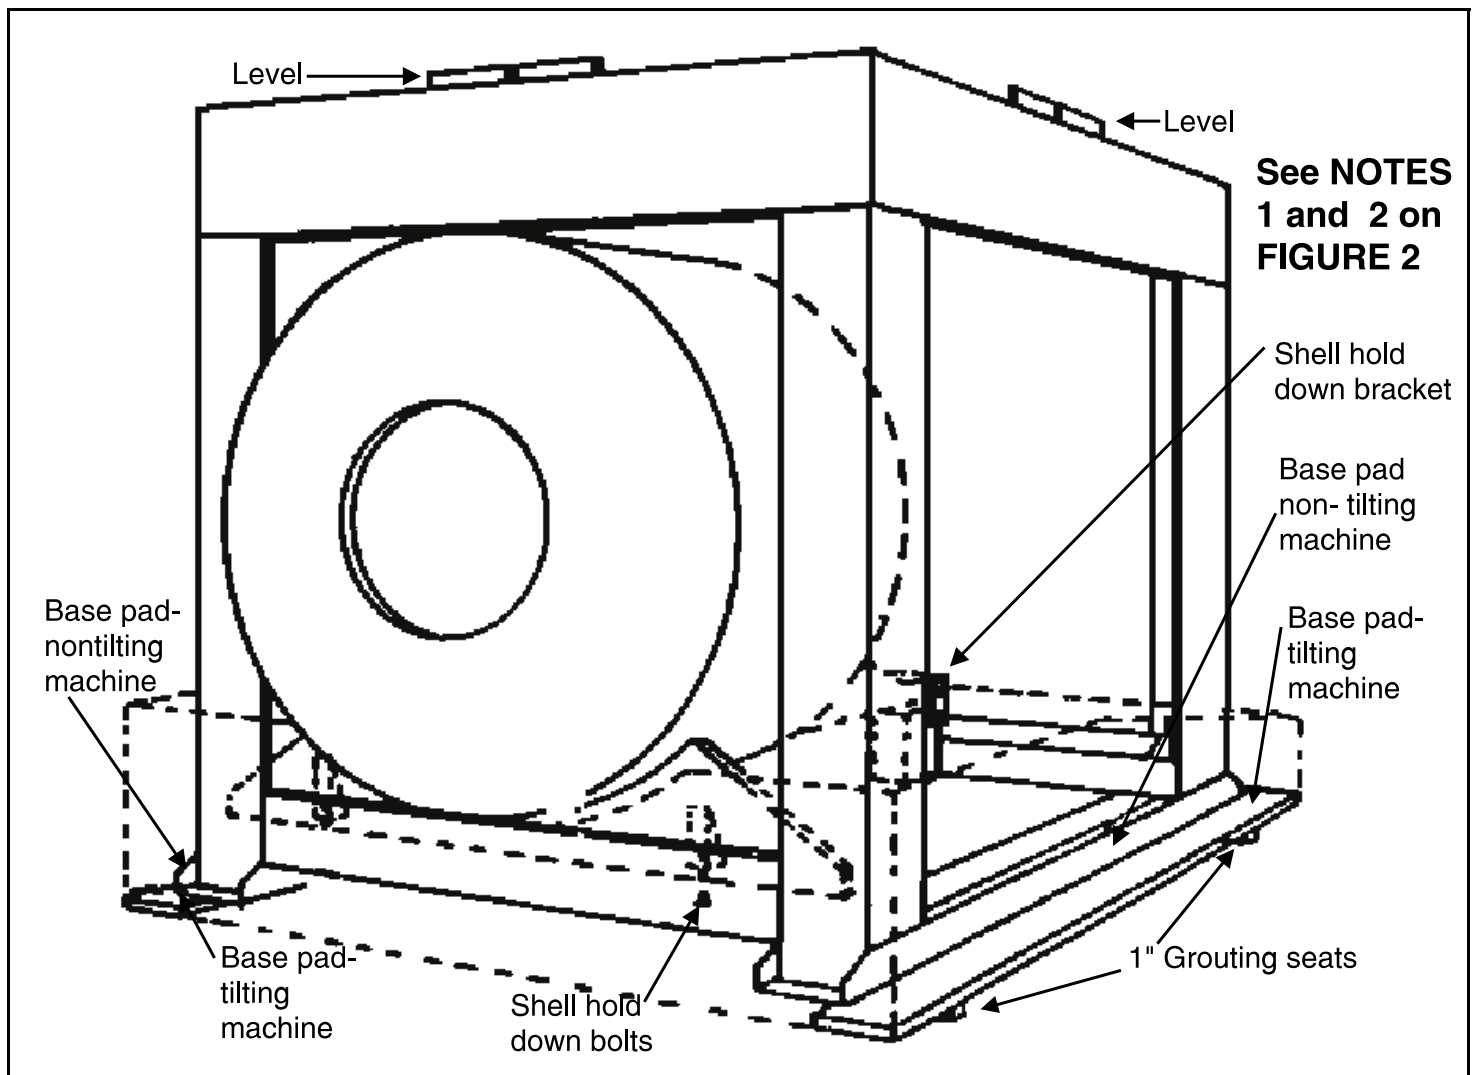

FIGURE 3 (MSIN0203AE)
1. Place blocks in each of the four corners of the foundation. The blocks should be high enough to hold the base plate approximately 1" above top of slab (See FIGURE 3).